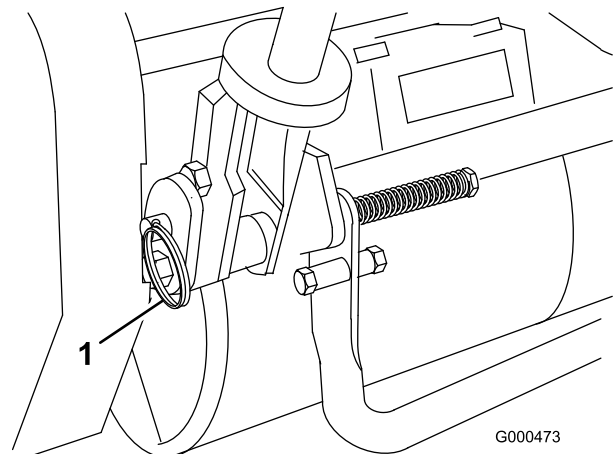

Figure 6
1. Remove hairpin cotters from ring pins on each side of mower (Figure 6).
2. While supporting handle, remove ring pins from each side and raise or lower handle to desired operating position (Figure 6).